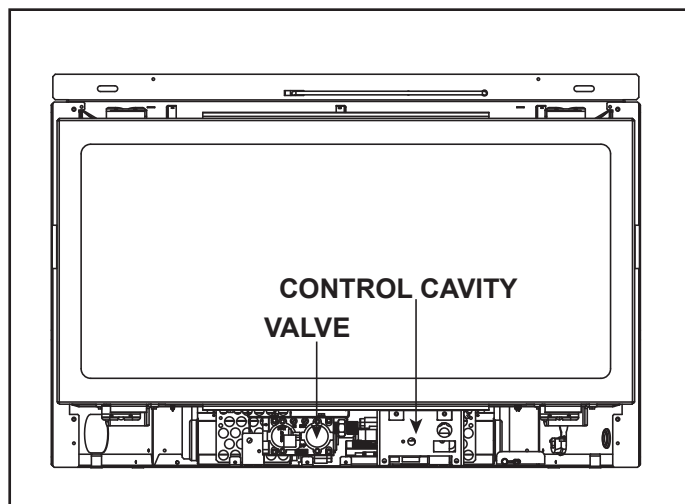

Figure 3.3 Control Cavity - Valve Location
The Intellifire™ Plus intermittent pilot ignition system comes with a battery backup system that enables the system to operate in a power outage. The system offers seamless transition from household AC power to battery backup. A factory-installed battery pack is located in the control cavity of the appliance. See Figure 3.3. Battery longevity and performance will be affected by long term exposure to the service temperatures of this appliance.
1. Access the control cavity of the appliance. See Figure 3.3 for location. The decorative front or door may need to be removed.
2. Locate the battery tray and insert four AA cell batteries. Battery polarity must be correct or module damage will occur. See Figure 3.3. A complete wiring diagram is included in the Electrical section of the appliance Installation Manual.